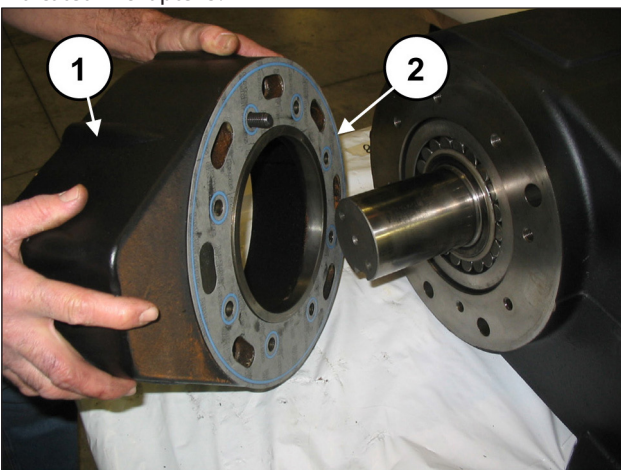
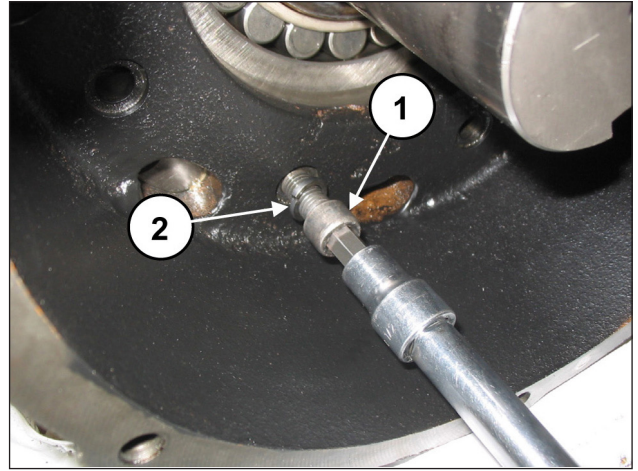
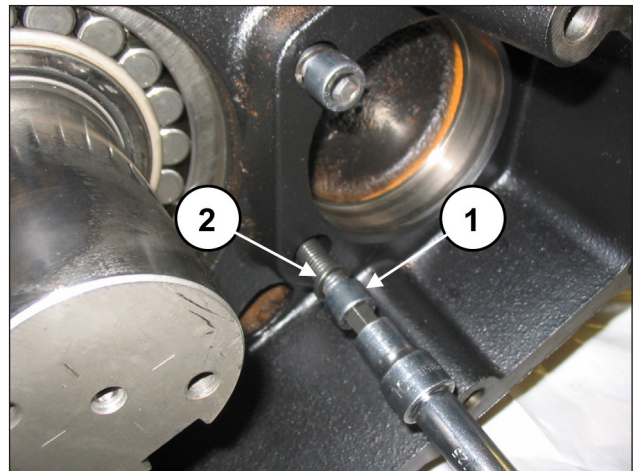

Fig. 45
Fig. 46
Fig. 47
Mount the reduction gear box (pos. ①, Fig. 45) and the gasket (pos. ②, Fig. 45) using the 6 M12x40 screws (pos. ①, Fig. 46), the 2 M12x50 screws (pos. ①, Fig. 47) and the Grower washers Ø12 (pos. ②, Fig. 46 and Fig. 47).